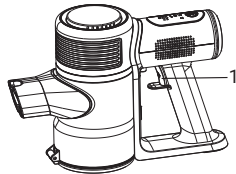

Figure 4-1
4.1 Press the power switch No.1 to start the machine and enter the working state, see figure 4-1. Clean the floor or carpet when rolling brush works, and press the speed-control button No.2 to switch turbo and eco level as the initial default setting is med. Press again the power switch No.1 if you want it to suspend; pay attention to the battery power level LED(No.3). When the battery power is full, it shows 100%.